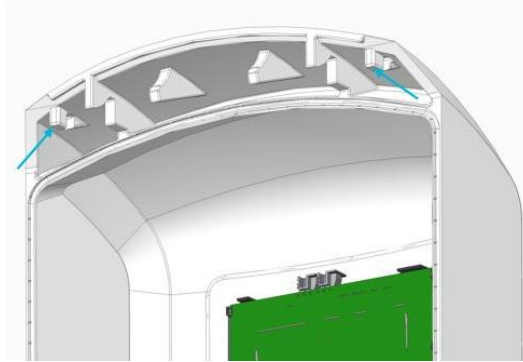

Figure 4
12. Lower the front cover with the two protruding studs in the grooves on the top side that is indicated with the blue arrows (fig. 4).